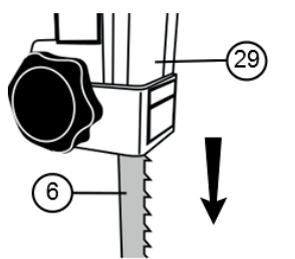
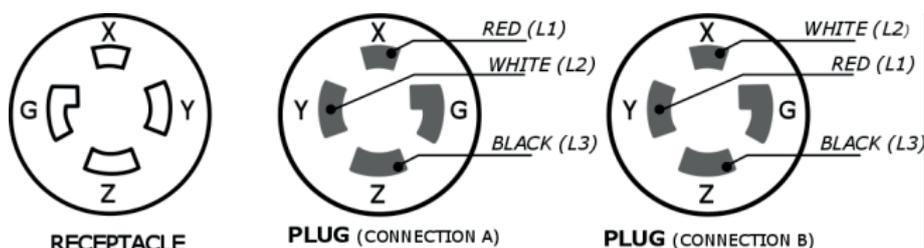

Fig. 5A
Fig. 5B
Before completing the electrical connection, verify the direction of movement of the band saw (6). When the on button is pressed, the band saw must move from top to bottom in the sliding bar side (Fig. 5A). If the band saw moves from bottom to top, push the stop button and unplug the equipment. Interchange 2 of 3 incoming power supply wires (Fig. 5B).